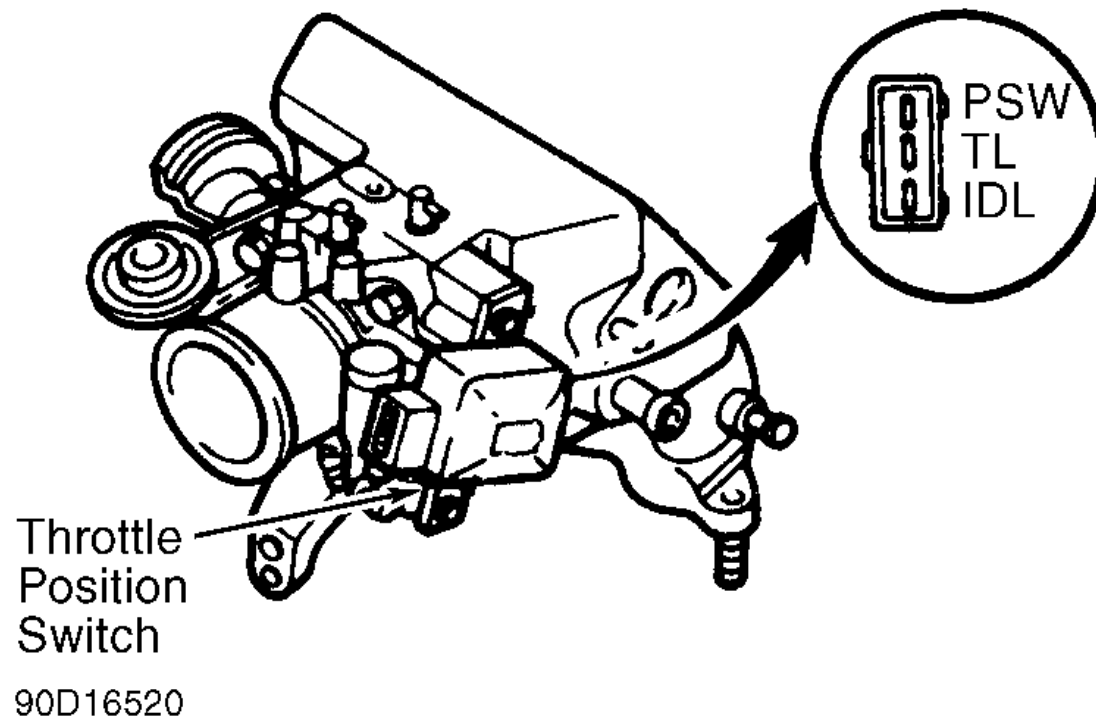

Fig. 3: Throttle Position Switch Connector Terminal ID. (Festiva)
3. To adjust, loosen TP attaching screws. Connect ohmmeter between terminals IDL and TL. See Fig. 3. Insert a .020" (.5 mm) feeler gauge between throttle stop screw and stop lever.